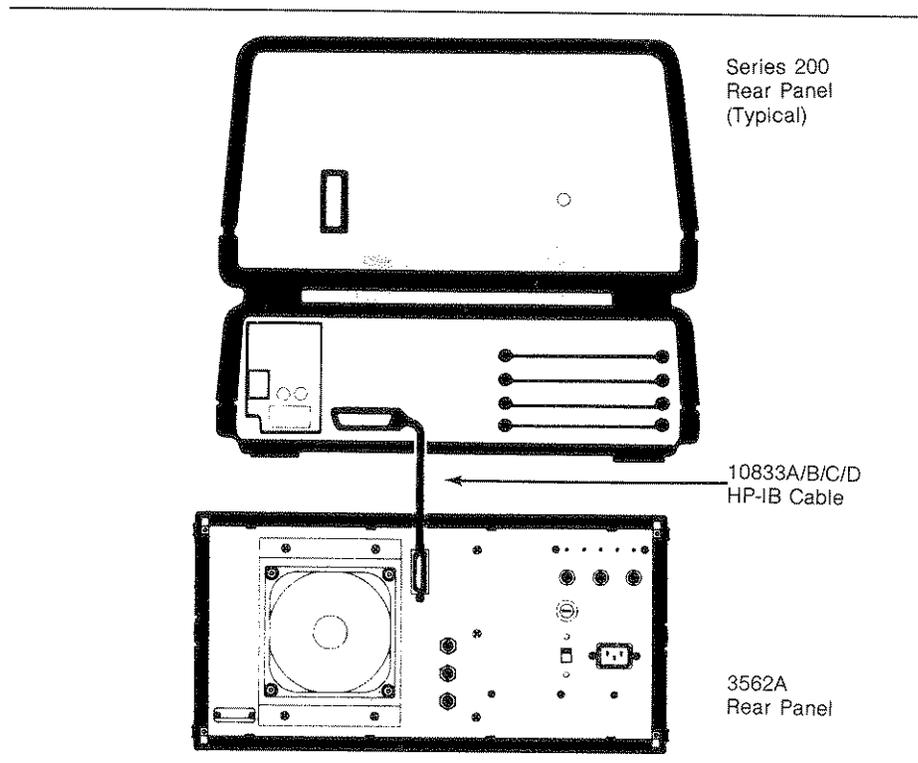

Figure 1 HP-IB System Connection
1. As shown in figure 1, connect the HP 3562A to the computer using the HP-IB cable.